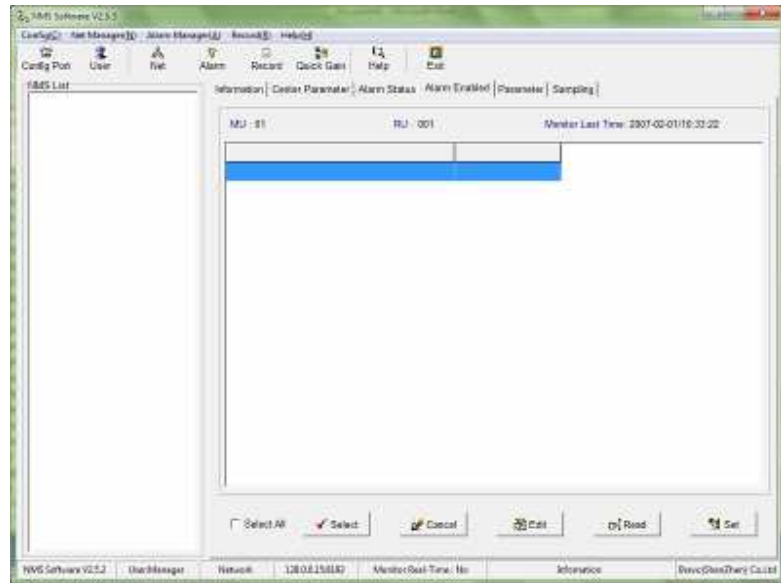

Figure 3-3. Network Management System Main Window
2. Enter the user name and password for login, the main window will open as shown in Figure 3-3.